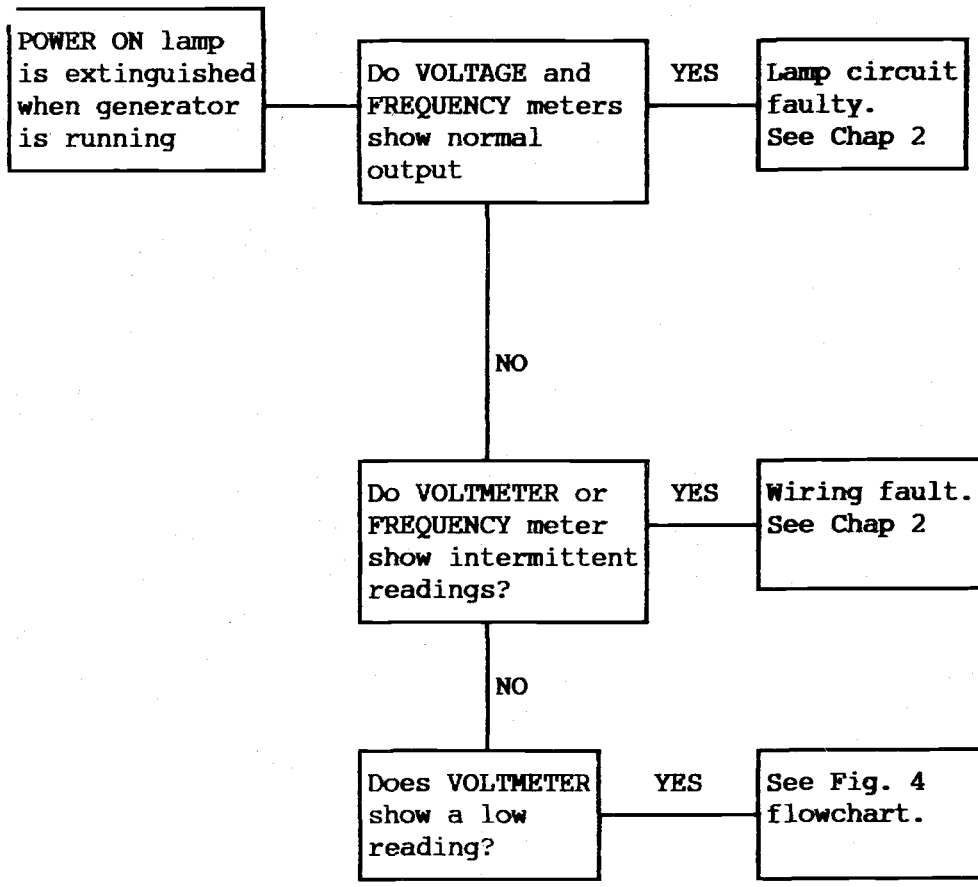

Fig 3. Generator Running - Trouble Shooting Chart.
7. Figure 3 flowchart will assist in fault diagnosis: